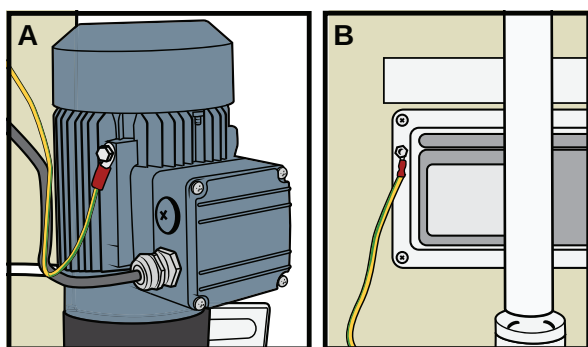

Figure 119
- Hydromassage (A) or Hydrosound (B), if equipped. See Figure 119.